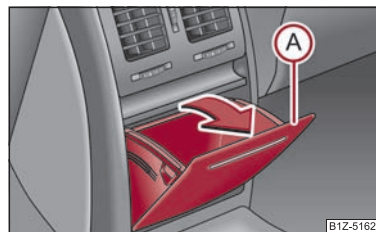

Fig. 77 Centre console at rear: Storage compartment
- Open the storage compartment by pulling on the upper edge of the storage compartment (A) in the direction of arrow ⇒ fig. 77.